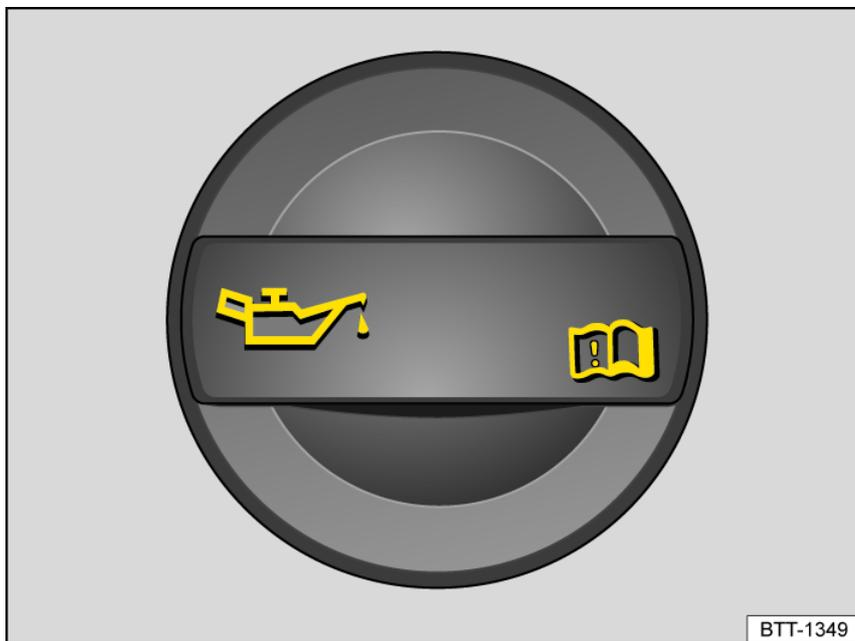

Fig. 194 In the engine compartment: engine oil filler cap (general example).
4. Find the engine oil filler and the dipstick. You can identify these by the 📖 symbol on the engine oil filler cap and the colored handle on the dipstick *fig. 194*. If you are not sure where the cap and the dipstick are located, contact an authorized Volkswagen dealer or authorized Volkswagen Service Facility for assistance.
9. Remove the cap on the engine oil filler *fig. 194*.